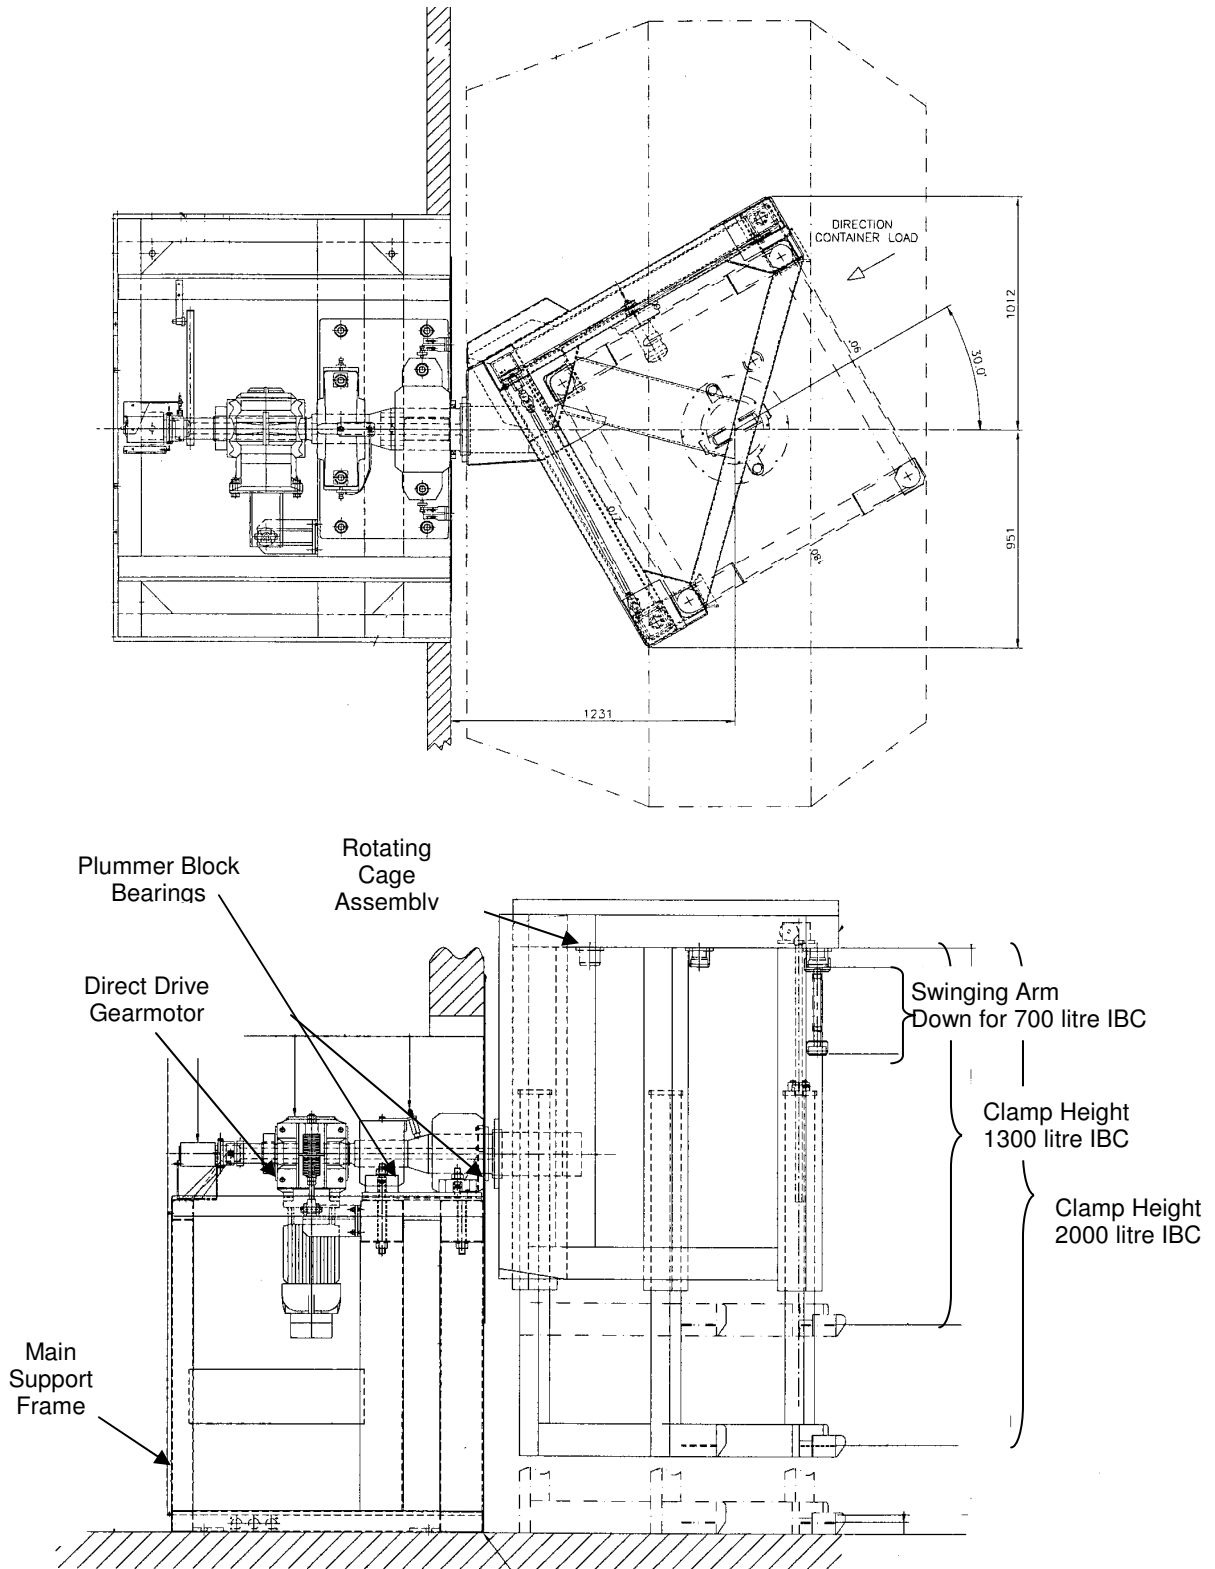

Fig 2 - SP2000 Blender – Construction Drawing (Plan & Side Views)
The SP2000 Blender, is illustrated in Figs 2 - 11,
- Shaft-mounted, direct drive, gearmotor with brake and torque arm (Figs 2, 4, 6 & 7).
- Drive shaft and bearings (Figs 2, 4 & 6).
A rotating cage, made from BS EN 10088-1.4301 (304) stainless steel, is fixed to the main shaft. The cage clamps the container and supports it while the blending operation takes place. A screw jack system, driven by pneumatic (Air) motor, is used to actuate the clamping mechanism. When a 700 litre IBC is loaded onto the machine, a swinging arm assembly is activated, and lowered, to enable supplementary top clamp air bungs engage with the respective corner stops on the top side of the container. All moving parts are totally enclosed in the box section construction of the rotating cage (See Figs 2 - 4 & 8 – 10)